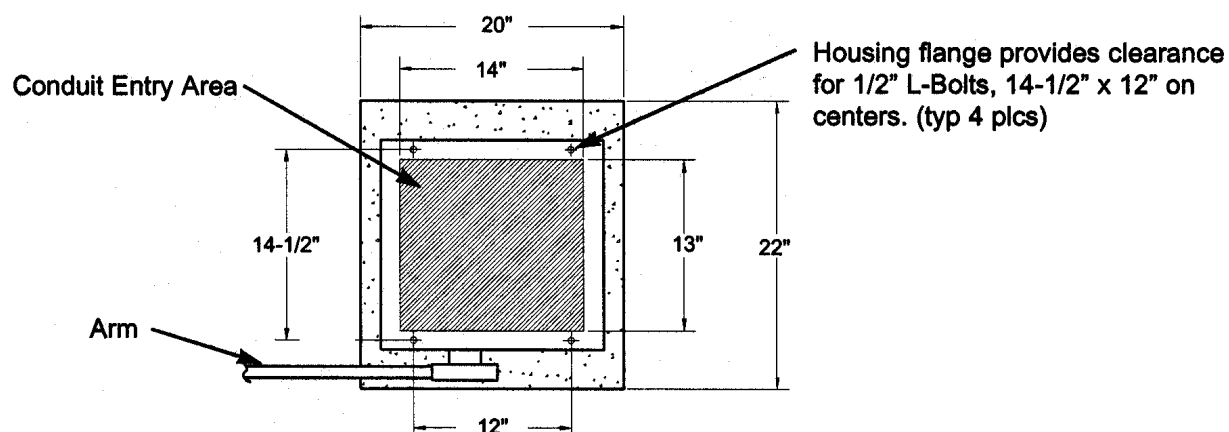

Figure 4: Concrete Pad Layout
- 1 Layout the concrete pad as detailed in Figure 4. Be sure to locate electrical conduit inside the hatched 14" x 13" area.
- 3 Locate four 1/2" X 6" long L-bolts (not supplied) as shown in Figure 4. The L-bolts should protrude 1 1/2" inches above the pad.